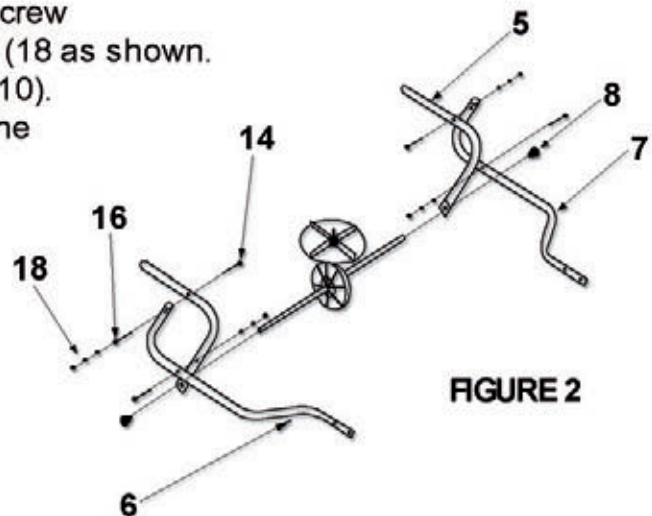

FIGURE 2
Attach back hopper supports (5) to right hopper support (6) and left hopper support (7) using screw M6x50 (14), small flat washer (16) and hex nut (18) as shown. Then slide back hopper support (5) onto axle (10). (Note: Split bushing (8) is factory installed on the back hopper supports.) (Fig.2)